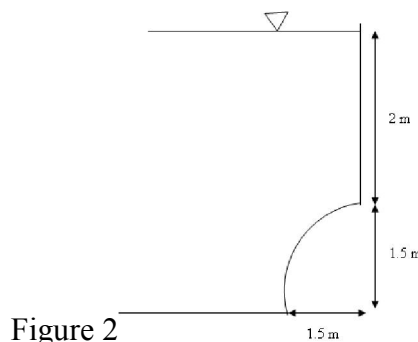

Figure 2
- b) Obtain an expression for centre of pressure of a lamina paced in inclined position. (7)
- 2 a) Derive continuity equation in three dimensional Cartesian coordinates. (7)
- b) A rectangular barge 16 m x 5 m has a depth of immersion of 1.6 m when floating horizontally. The centre of gravity of the barge is 1.9 m above the bottom. Determine the angle of tilt if a 50 kN weight is moved across the deck by 3.5 m. (8)
- 3 a) In a 2-dimensional steady incompressible flow, the velocity components  $u, v$  are given by  $u = 2x - x^2y + \frac{y^3}{3}$ ,  $v = xy^2 - 2y - \frac{x^3}{3}$ . Determine the acceleration at P(1,3). (6)
- b) A door in a tank retaining water is in the form of a quadrant of a cylinder of 1.5 m radius and 1.8 m wide as shown in Figure 2. Calculate the resultant force on the gate. (9)